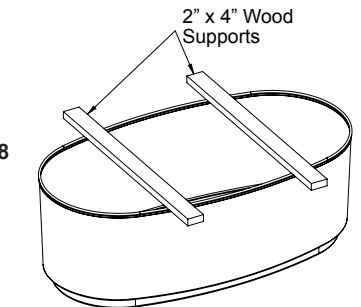

Fig. 8
- 3 Place (2) four foot long 2" x 4" wood supports across the top of the skirt. Position the wood supports evenly over the skirt as illustrated (Fig. 8). They will support the bathtub during the connection of the water supply lines and the electrical connection.